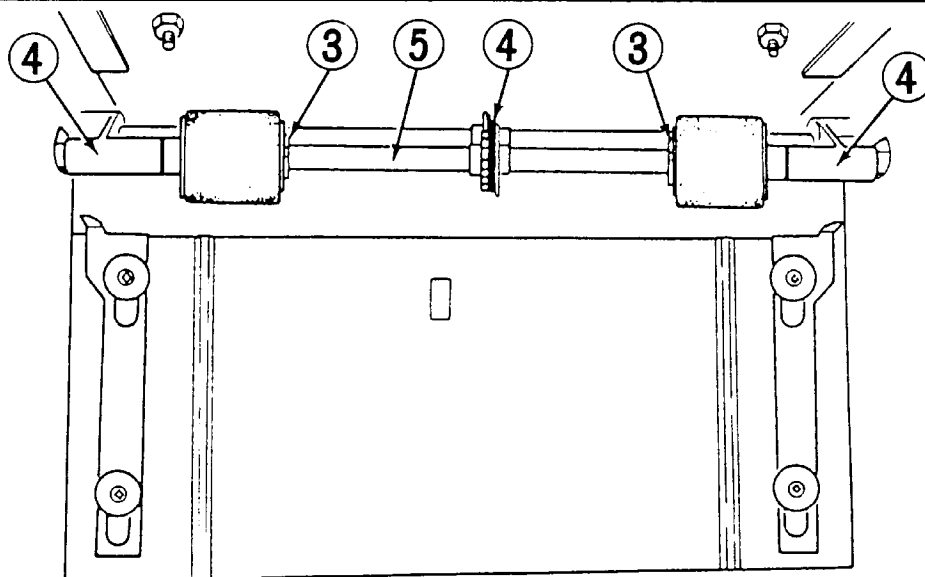

FIGURE 4-11. PAPER ROLLER DRIVE SHAFT REMOVAL
3. Remove both E-rings from insides of rollers (see Figure 4-11).